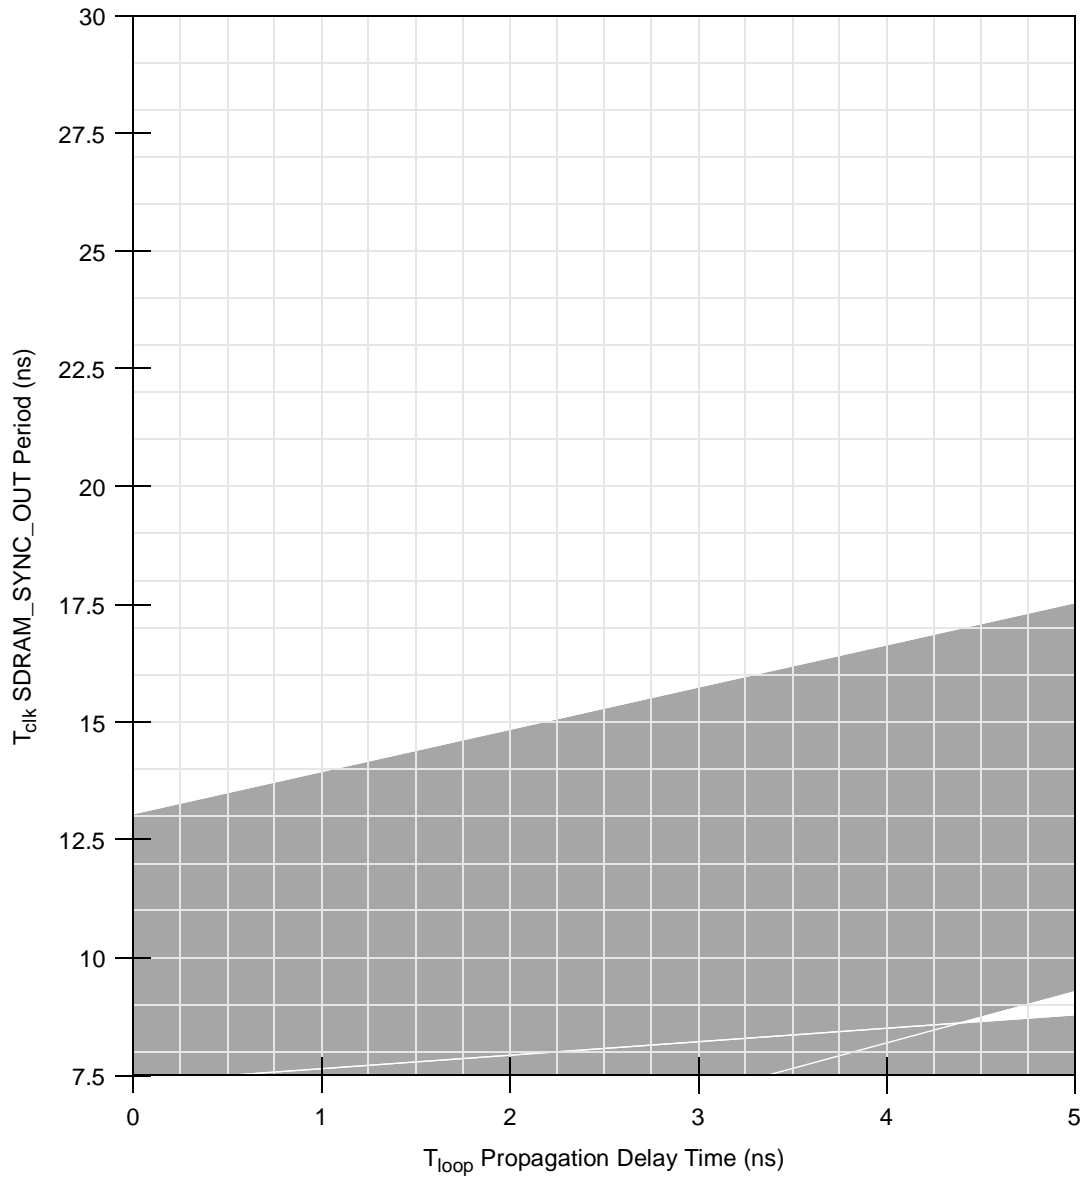
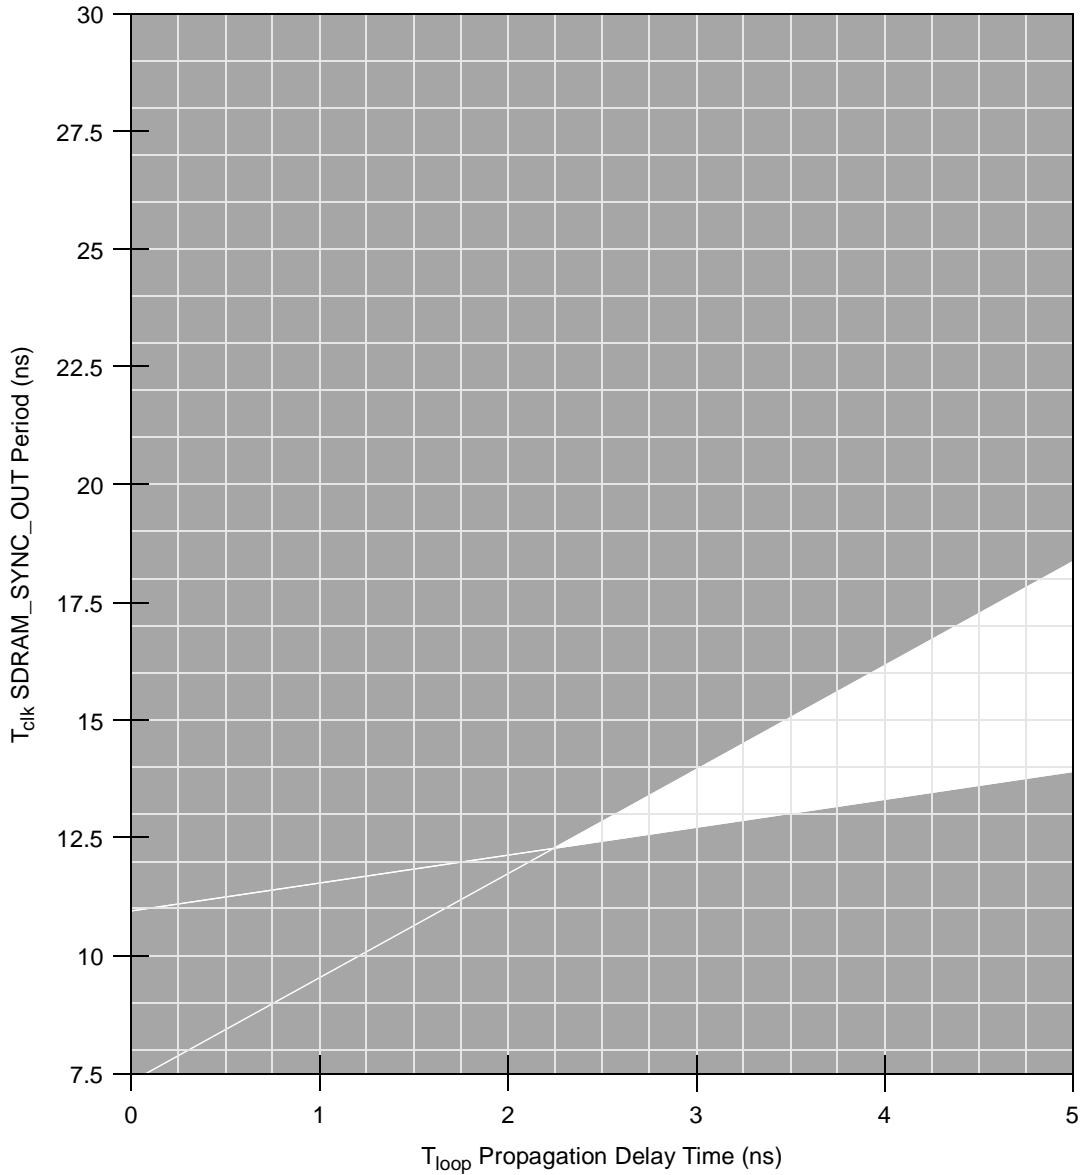

Figure 7. DLL Locking Range Loop Delay Versus Frequency of Operation for DLL_Extend=0 and Normal Tap Delay
Figure 10. DLL Locking Range Loop Delay Versus Frequency of Operation for DLL_Extend=1 and Max Tap Delay
- DLL_EXTEND is bit 7 of the PMC2 register <72>. N is a non-zero integer (see Figure 7 through Figure 10). T_{clk} is the period of one SDRAM_SYNC_OUT clock cycle in ns. T_{loop} is the propagation delay of the DLL synchronization feedback loop (PC board runner) from SDRAM_SYNC_OUT to SDRAM_SYNC_IN in ns; 6.25 inches of loop length (unloaded PC board runner) corresponds to approximately 1 ns of delay. For details about how Figure 7 through Figure 10 may be used refer to the Freescale application note AN2164, *MPC8245/MPC8241 Memory Clock Design Guidelines*, for details on MPC8245 memory clock design.
Figure 7 through Figure 10 show the DLL locking range loop delay vs. frequency of operation. These graphs define the areas of DLL locking for various modes. The gray areas show where the DLL locks.